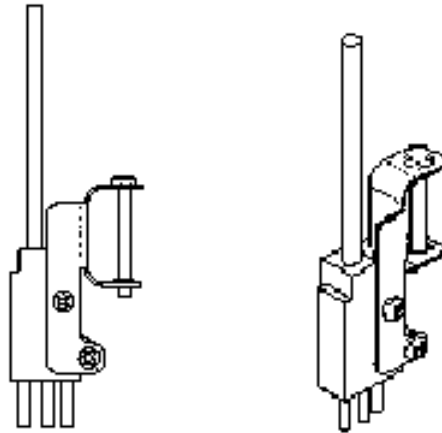

Figure 3
- 1.11 Attach EIBC Probe to Clamp Assembly (as shown in Figure 3) using supplied 6-32 x 1/2 screws. **Do not overtighten this assembly.**